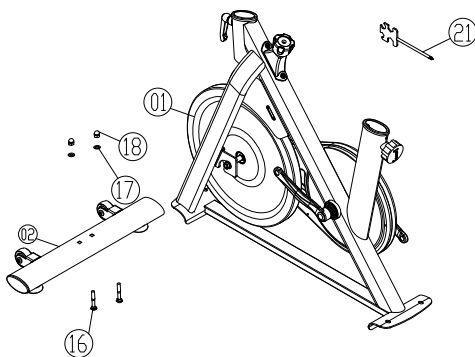

Figure 1
1. Secure the Main Frame Assembly (Part 01) to the Front Foot Tube Assembly (Part 02) with two M8×55 carriage bolts (Part 16), two flat washers (Φ20×Φ8.5×1.5t, Part 17) and two plastic high caps (Part 18), in accordance with Figure 1.